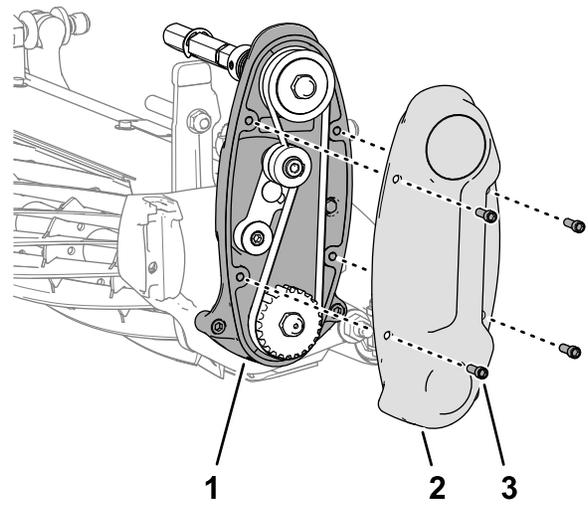

Figure 6
1. Remove the 4 socket-head screws that secure the cover to the reel-drive housing (Figure 6).